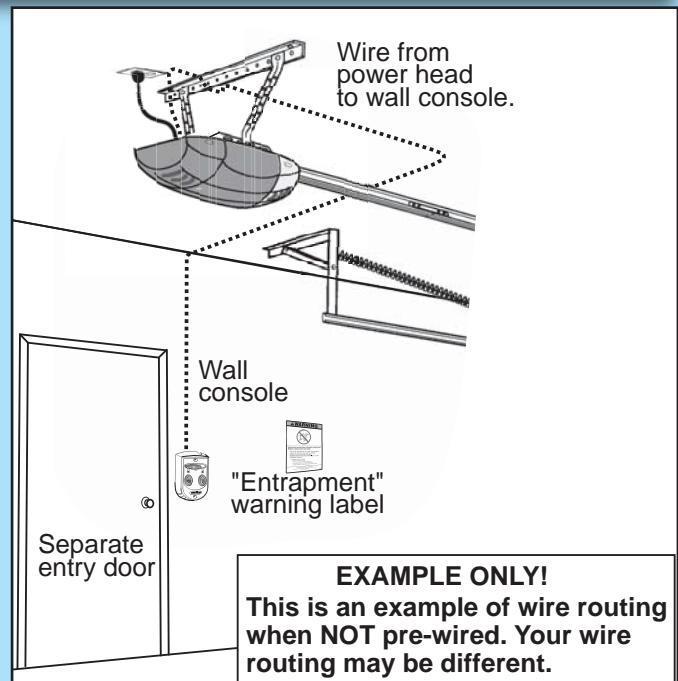

FIG.3-1 Wall Console wire routing
- Locate wall console pre-wired wire ends (**Fig. 3-1**). (They should be located within the guidelines mentioned above.)
- Pick a convenient location for mounting wall console using the guidelines mentioned above (**Fig. 3-1**).
- Run wire from wall console to power head (**Fig. 3-1**).